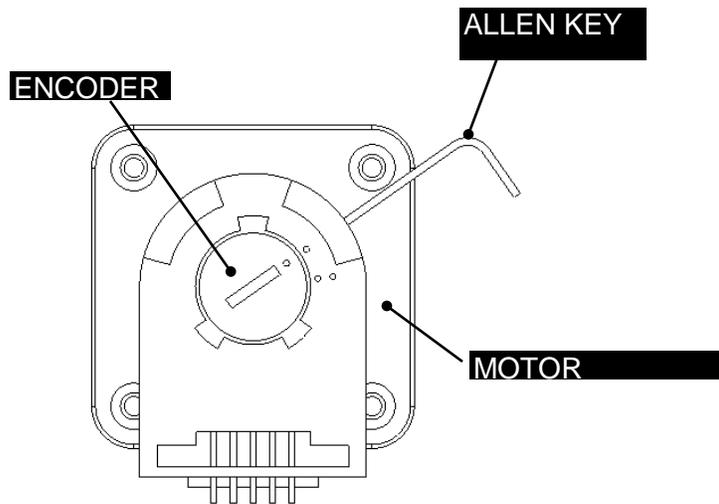

Figure 7-23: Removing the Encoder
2. Put an Allen key into the encoder and by place an upward force on as shown in Figure 7-23 to remove the encoder.